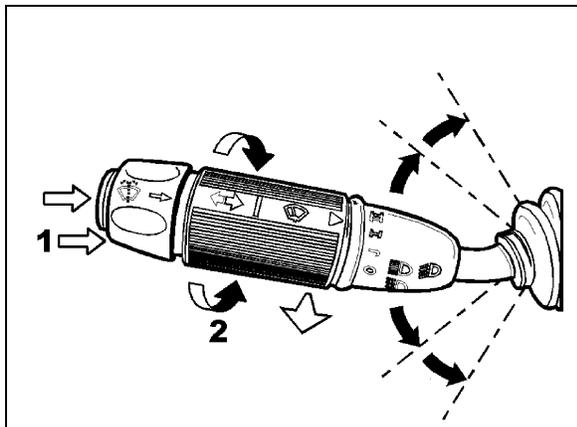

FIGURE 33: MULTIFUNCTION LEVER 23133
Turn the multifunction lever forward to activate windshield wipers (item 2, Figure 33). The first position operates the wipers at low speed and the second position operates the wipers at high speed. Turning the lever backwards will operate the wipers in the intermittent mode.
The windshield washer pumps are electrically operated and are controlled by a washer control ring on the multifunction lever (item 1, Figure 33).